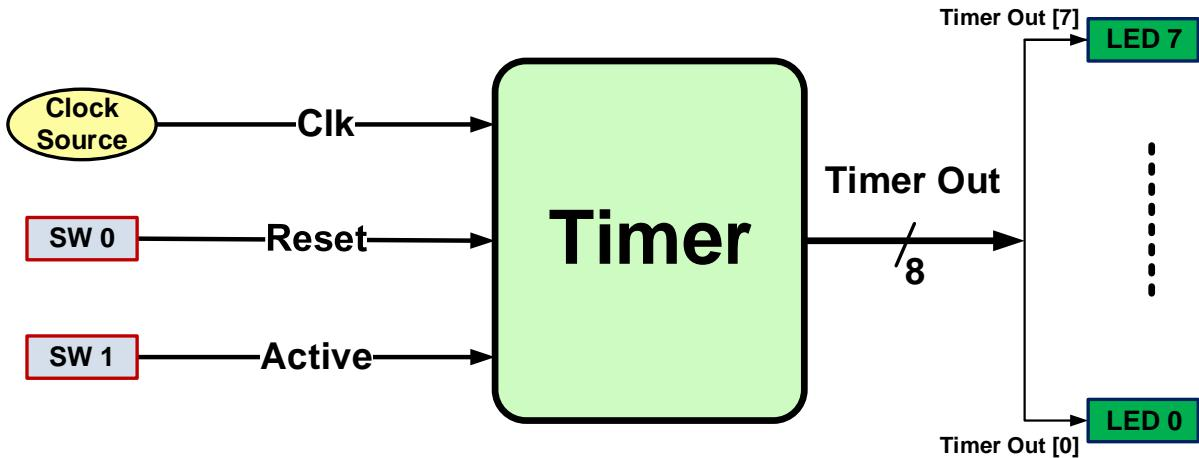

Figure 16. Block diagram of the second design.
4. New Project Creation (Figure 16)
In this step of Lab 8, you should create a new project to implement a **Timer**. The block diagram of the targeted design is shown in Figure 16. The **Timer** block is a simple counter. The output value of the timer (i.e. **Timer Out**) increases per second (like a real clock). The **Timer** block has the following input/output ports: